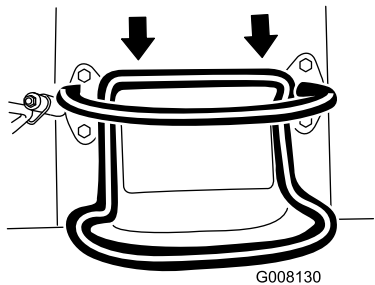

Figure 8
- To move rearward, move the traction control rearward (Figure 8).